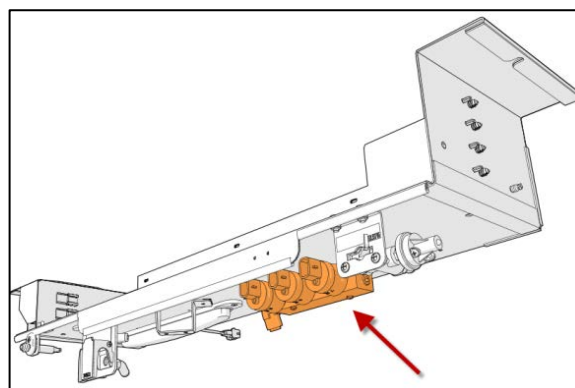

Figure 2
2. Locate the pressure switch manifold under the front junction box support (Figure 2).